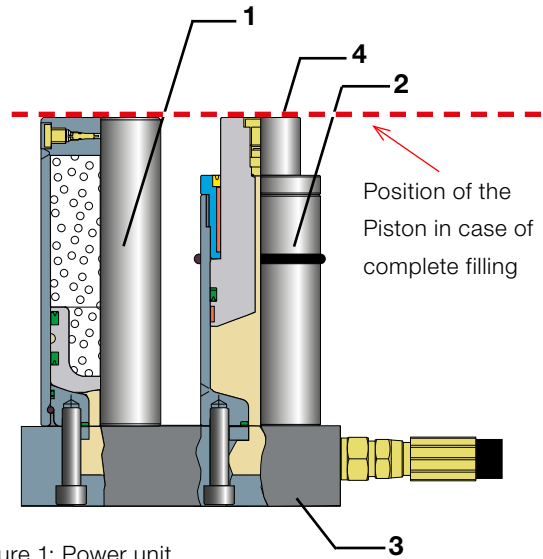

Figure 1: Power unit
#### 3.1 Power unit (2018.20.) (Fig. 1)
The power unit (Fig. 1) consists of an accumulator (1), a driving cylinder (2) and an adapter plate (3). The accumulator is used to adjust the force of the slave and prevents excess pressure building up within the system. When the slave reaches the end of its stroke, excess oil is displaced into the accumulator (overtravel).
**When the system is totally filled with oil, the piston of the driving cylinder is at the same height as the accumulator (see figure 1).**